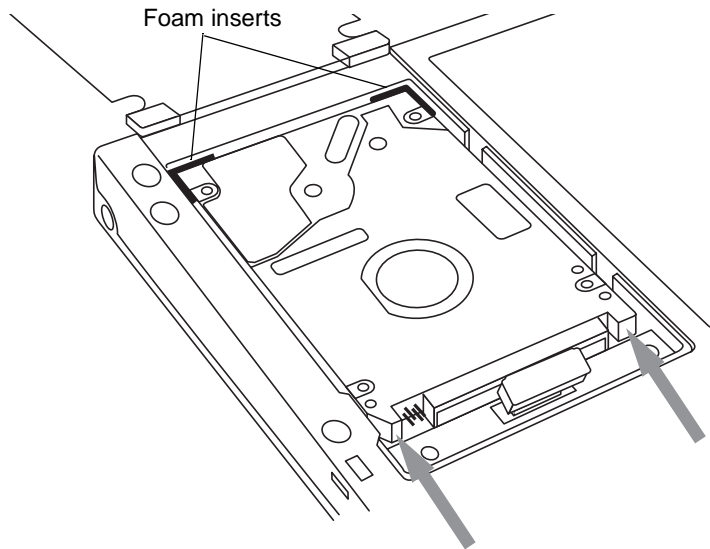

Figure A-3: Removing the Hard Disk Drive, Part 1
- Using your thumbs, push back on the two corners of the hard drive at the locations indicated in Figure A-3. Using firm pressure, push the hard disk drive towards the edge of the system. The small foam inserts on the end of the hard disk tray offer sufficient “give” for the drive to be removed without damaging the flex cable.